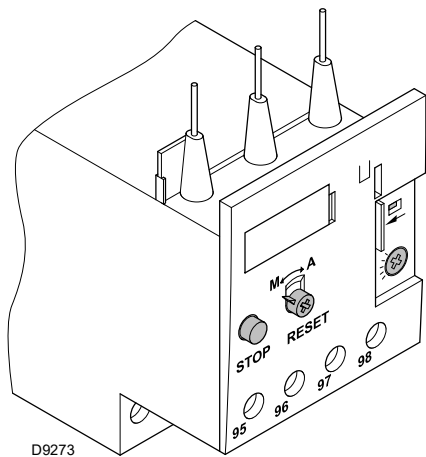

Fig. 28
The electro-mechanical overload relay (Fig. 28) is used to avoid damage to the motor owing to a strong increase in absorption or the lack of a phase.
- To reset, in the case of an intervention of the overload relay, press the button **"RESET"** (Fig. 28).
- The button **"STOP"** (Fig. 28) opens the NC (95-96) contact and stops the motor.